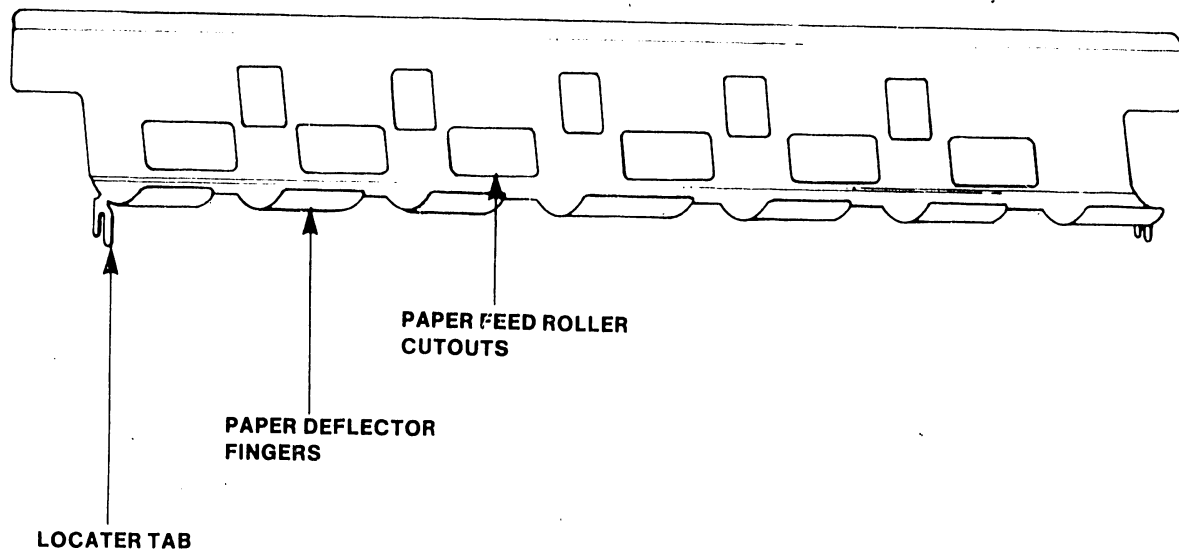

FIGURE 5-20 PAPER DEFLECTOR ASSEMBLY
5.18 PAPER DEFLECTOR CHECK/ADJUSTMENT (Figure 5-20)